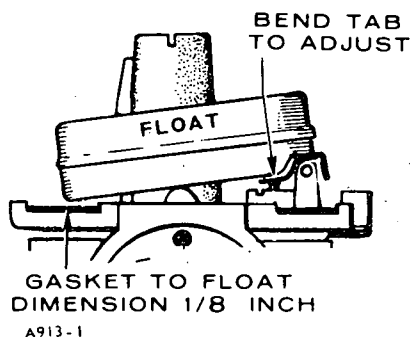

FIGURE 15. FLOAT LEVEL ADJUSTMENT
6. See Figure 15.
Carburetor Removal and Disassembly: Remove and disassemble the carburetor assembly as follows, referring to Figure 15: